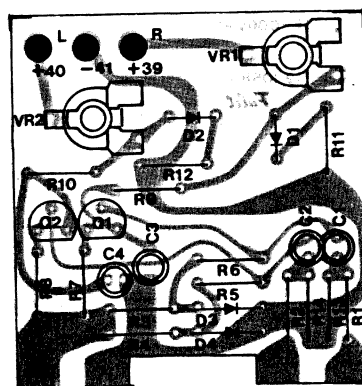

Fig. 3
6. Adjust VR 1 (for right channel) and VR 2 (for left channel) for a meter indication of 30 W. (or 0 dB). (sec. fig. 3)